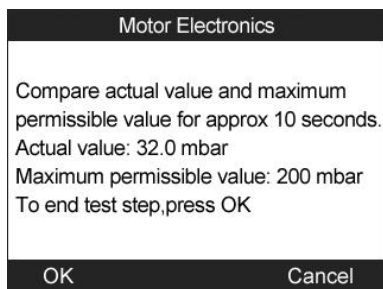

Figure 13-44
- e) Check the exhaust backpressure with engine running at cut-off speed. The tool will read off the actual backpressure value and compare with the upper limit. (Figure 13-44). Select **OK** to end the test or **Cancel** to return to previous menu.